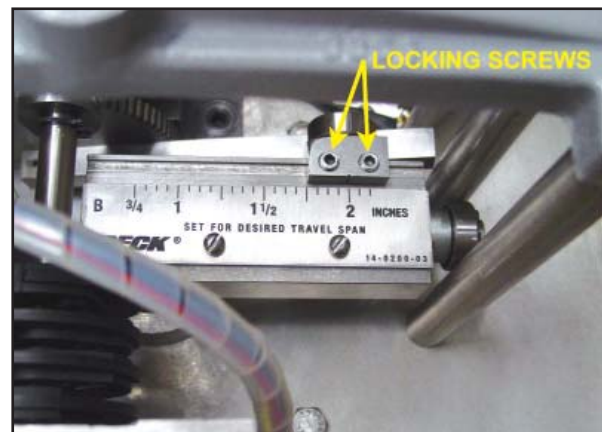

Figure 7
Adjustment of the total actuator stroke within the factory-set travel range is easily accomplished by the use of the Beck Calibar, Figure 7. The switches and feedback device are simultaneously adjusted to maintain full input span when the Calibar setting is changed. For stroke lengths longer than the factory-set travel limits material modifications are necessary—consult the factory.
3. Loosen the two locking screws on the Calibar block with an 1/8" hex wrench (See Figure 7, this page).